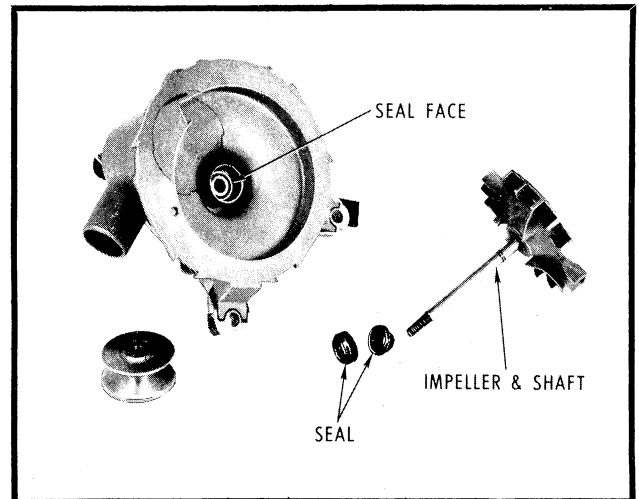

Figure 95D
- C. Remove seal face by prying it from body. Be careful not to damage seal cavity, *Figure 95D*.